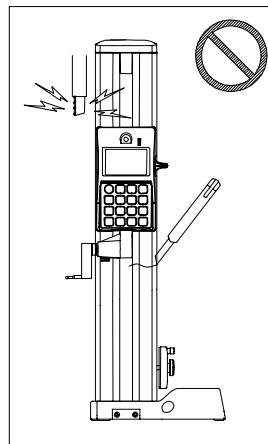

Fig.3
- Absolutely do not apply an external voltage to The QM-Height with, for example, an electric engraver. The gage may be damaged (Fig.3).